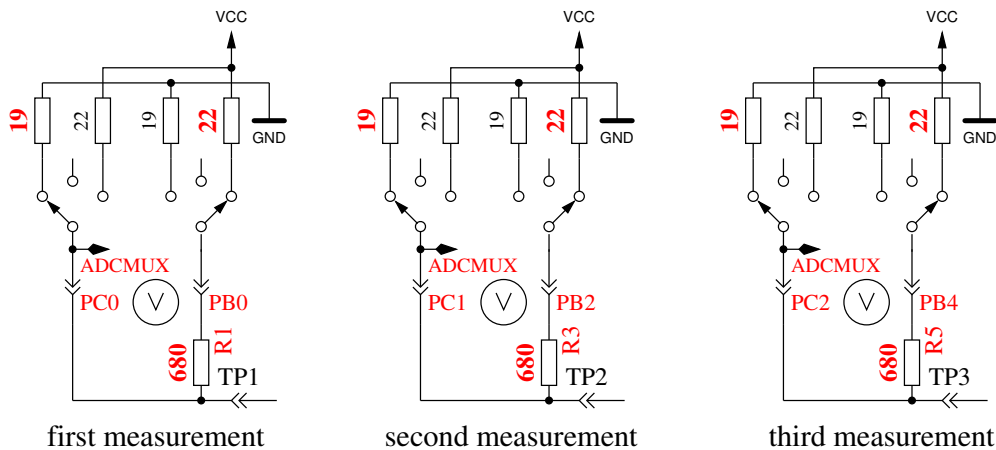

Figure 5.63. Measurement of internal resistance of Port C switched to GND
5. **This step tests the capability of GND (-) connected 470kΩ resistors (H) to pull the test pins to GND.** Row 1 shows the text “RH-”. Row 2 should display zero for all three pins.
6. **This step tests the capability of VCC (+) connected 470kΩ resistors (H) to pull the test pins to VCC (+).** Row 1 shows the text “RH+”. The results are shown als difference to VCC and should be near zero. Great differences from the best value for test 5 and 6 are errors such as isolation problem, flux material or damaged port.
8. **Measuring of internal resistance of pin output switched to the GND signal.** This test and the follwing tests will only be done, if the option AUTO\_CAL is selected. The internal resistance of the port C outputs switched to GND (-) are measured with the current of to VCC (+) switched 680Ω resistors, see Figure 5.63. Only the three pins of the ADC port are measured, the resistor port B (PB0,PB2 and PB4) can not be measured without hardware modification. Is is assumed that the port resistance of the different ports are nearly identical. The resistor value will be shown in the next test.